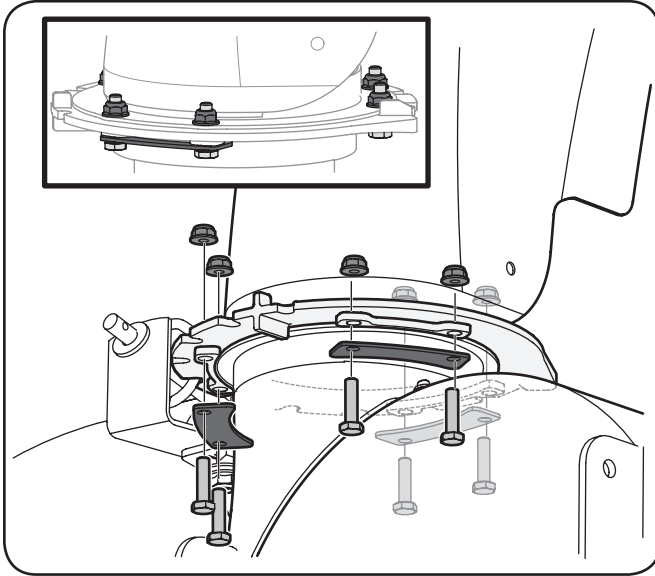

Figure 3-18
- Using two $\frac{7}{16}$ " wrenches, secure the chute assembly to the chute ring with three flange keepers, six hex screws and flange nuts as show in Figure 3-18.